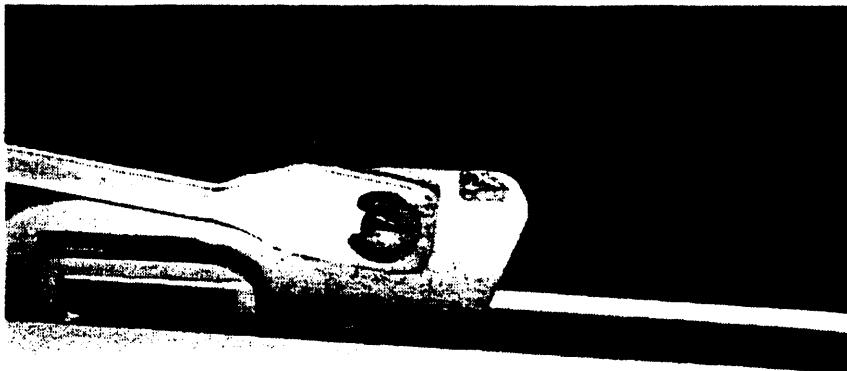

Figure 6-2. Computer-Lid Rocker
3. Using needlenose pliers or a small screwdriver, remove the E-rings from the two small rocker pins (see figure 6-2). Be careful not to drop the E-rings inside the case.